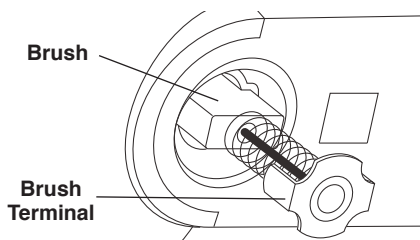

Figure 43. Motor Brush
3. Pull out the brush (Figure 43). Repeat for the opposite side.
5. Install new brush. The two (2) tabs on the brush terminal go in the same hole the carbon part fits into.